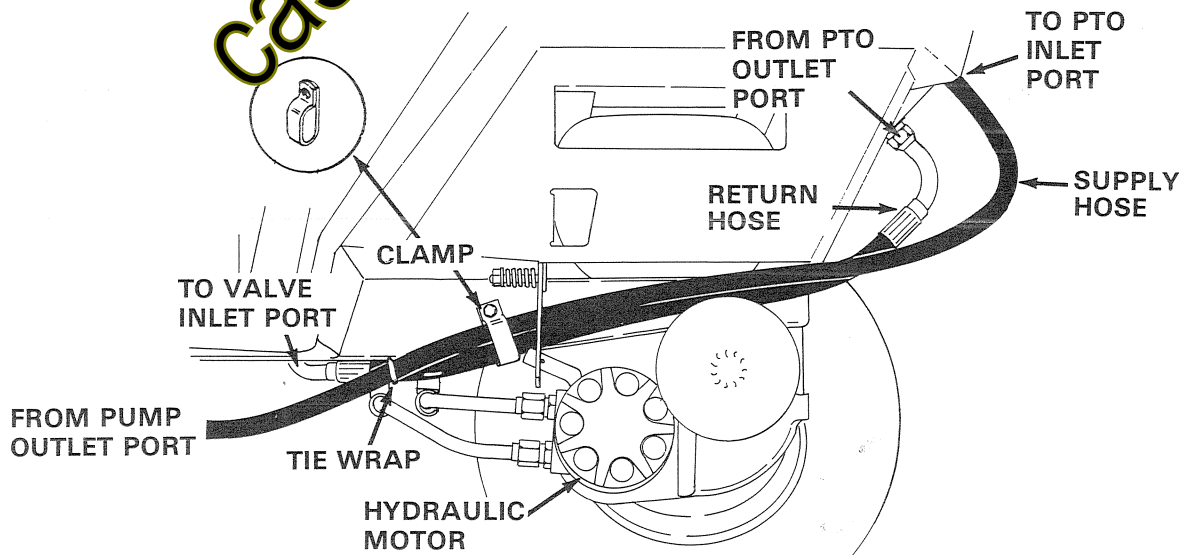

FIGURE 6 4000 Series
10. For 4000 Series Tractors Refer to Figure 6.